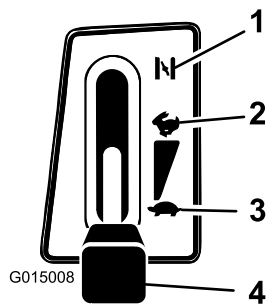

Figure 10
3. Shift the throttle lever to Choke (Figure 10).
- After the engine starts, slowly shift the throttle lever to Fast (Figure 10). If the engine stalls or hesitates, shift the throttle lever back to Choke for a few seconds and then shift the throttle lever to Fast. Repeat this step as required.
- Shift the throttle lever to Fast (Figure 10).